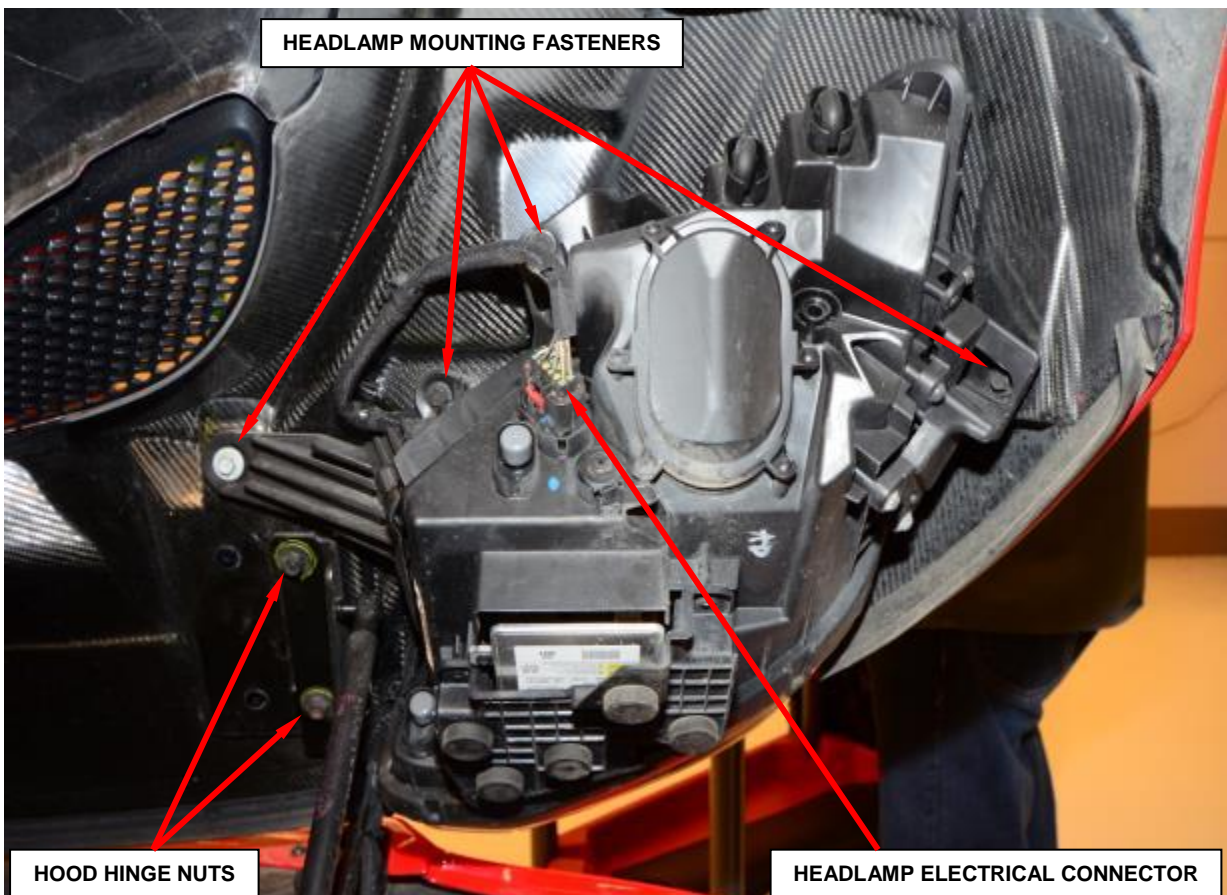

Figure 10 – Headlamp Assembly (Right Side Shown)
- a. Disconnect the right and left headlamp electrical connectors from the headlamp assemblies (Figure 10).
- b. Remove the four right and left side headlamp mounting fasteners (Figure 10).
- f. Remove the four right and left side nuts attaching the hinges to the hood (Figure 10).